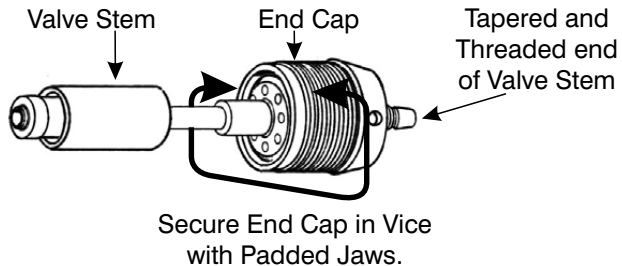

Figure 9-19. Threaded End of Valve Stem
5. Continue threading the Valve Stem (8) into the Valve Body Nut (12) until the threaded part of the Valve Stem protrudes from the other side of the End Cap (10), as shown in Figure 9-19.